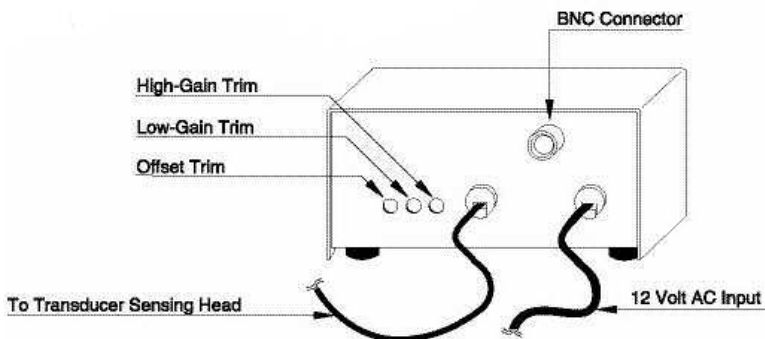

Figure 3. Electrical Output
On the rear panel of the power supply are three small access holes to the trim pots. (See Fig. 3) The high and low gain trim pots are used to adjust the range. The right-hand trim pot is factory set to deliver 5.0 VDC for 50 gram. The center trim pot is factory set to deliver 5.0 VDC for 500 gram. Either can be adjusted to deliver more or less output as conditions dictate.
- Binding post are provided on the power supply for output connections. Red is positive (+); black is negative (-) and also ground. (See Fig. 3)